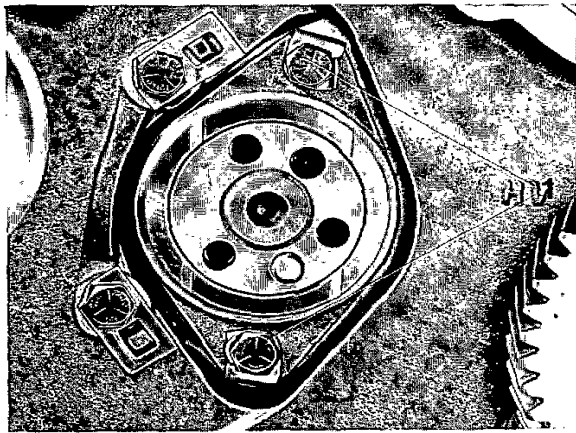
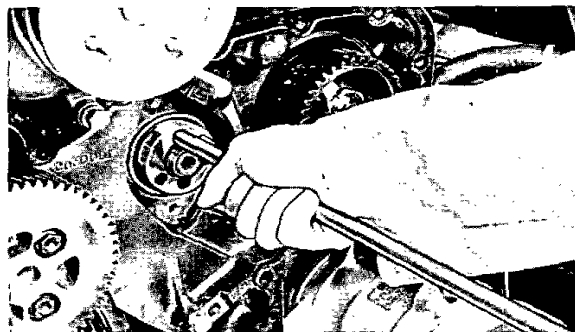

Fig. 86. Attaching bolts (1) for camshaft flange.
Fig. 87. Fitting the camshaft
13. Dismantle the camshaft flange (fig. 86). Carefully pull out the camshaft to avoid damaging the bearings. Use a suitable lever (fig. 87).
1. Oil in the camshaft bearing journals and slide the camshaft in carefully to avoid damaging the bearings. Use a suitable lever (fig. 87).